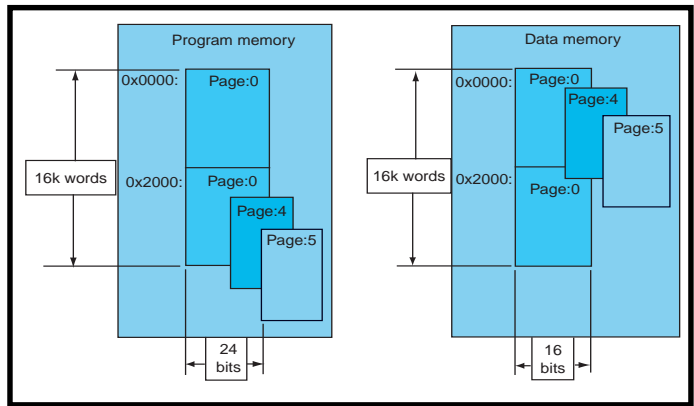

Figure 8—The mod870's memory architecture has two separately selectable and addressable memory spaces.
To design and code the best buffer transfer functions, it is important to know how the mod870's memory is structured and how the IDMA port is used to access this memory. The mod870's memory architecture has two separately selectable and addressable memory spaces (see Figure 8). The memory spaces are referred to as program memory (PM) and data memory (DM) spaces. Program memory space is 16k words by 24 bits, and contains either 24-bit instruction code or 16-bit data. Data memory space is 16k words by 16 bits, and contains 16-bit data words.